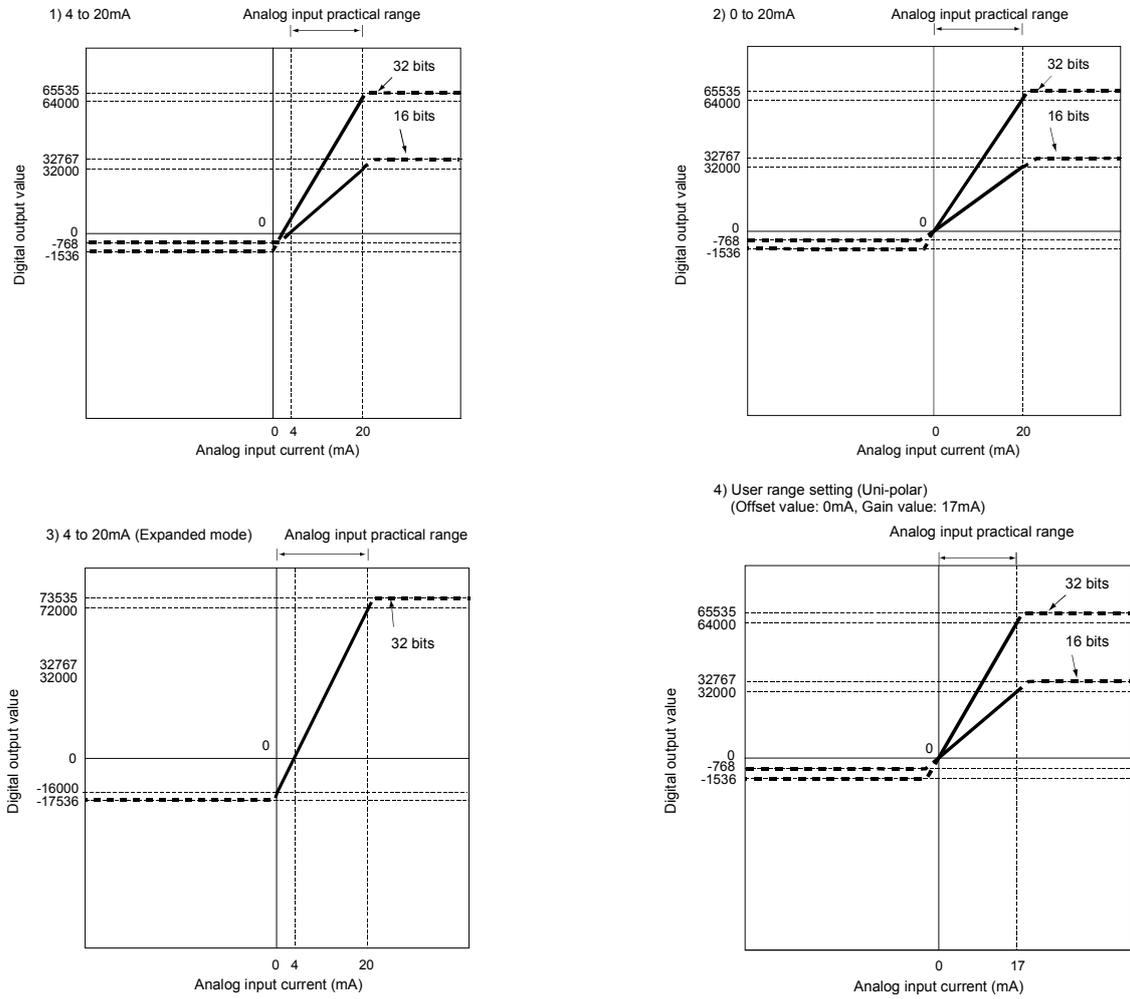

Fig. 3.2 Current input characteristic of Q64AD-GH
Fig. 3.2 shows a graph of the current input characteristic.
<p>(1) Set within the analog input range and digital output range for each input range. If these ranges are exceeded, the maximum resolution and accuracy may not fall within the performance specifications. (Avoid use in the dotted area of Fig. 3.2.)</p> <p>(2) Do not input an analog input current of more than <math>\pm 30</math> mA. A breakdown may result due to overheating.</p> <p>(3) Set the offset/gain values for the user setting range within a range in which the following conditions are satisfied.</p> <p>(a) Gain value <math>\leq 20</math>mA, offset value <math>\geq 0</math>mA</p> <p>(b) { (gain value) - (offset value) } &gt; 9.70mA</p> <p>(4) When an analog value that exceeds the range of the digital output value is entered, the digital output value will be fixed at the maximum or minimum value.</p>